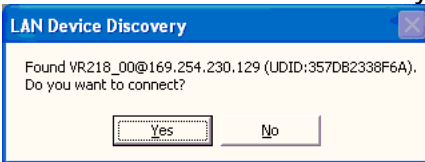

Fig. 18
4. The “LAN Device Discovery” window will come up. See Fig. 18